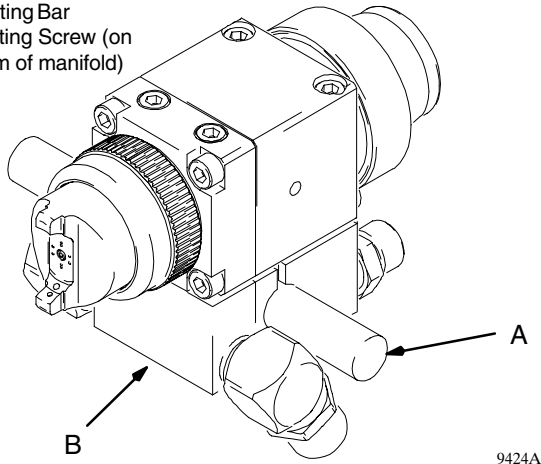

Fig. 2
To mount the gun on a reciprocating arm [0.5 in. (13 mm) diameter maximum], insert the bar (A) through the hole in the manifold as shown in Fig. 2. Secure the gun to the bar by tightening the mounting screw (B). The tip of the gun should be 6 to 8 inches (150 to 200 mm) from the surface of the object being sprayed.